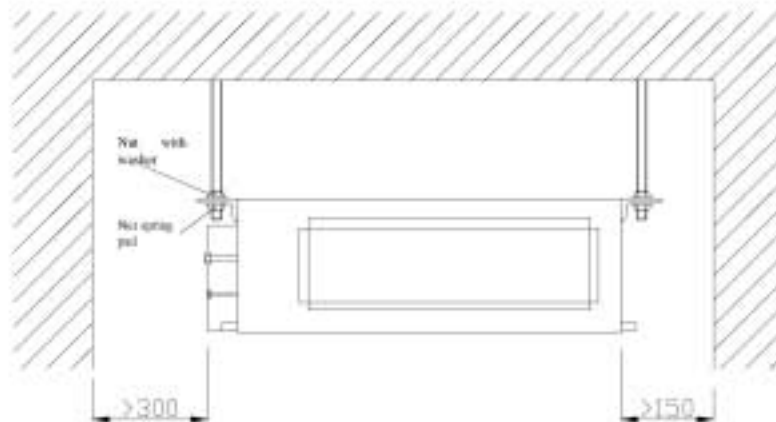

Fig. 2
4. Ensure the install distance of the indoor unit as shown in Fig. 2, ensure the necessary space for care and maintenance.